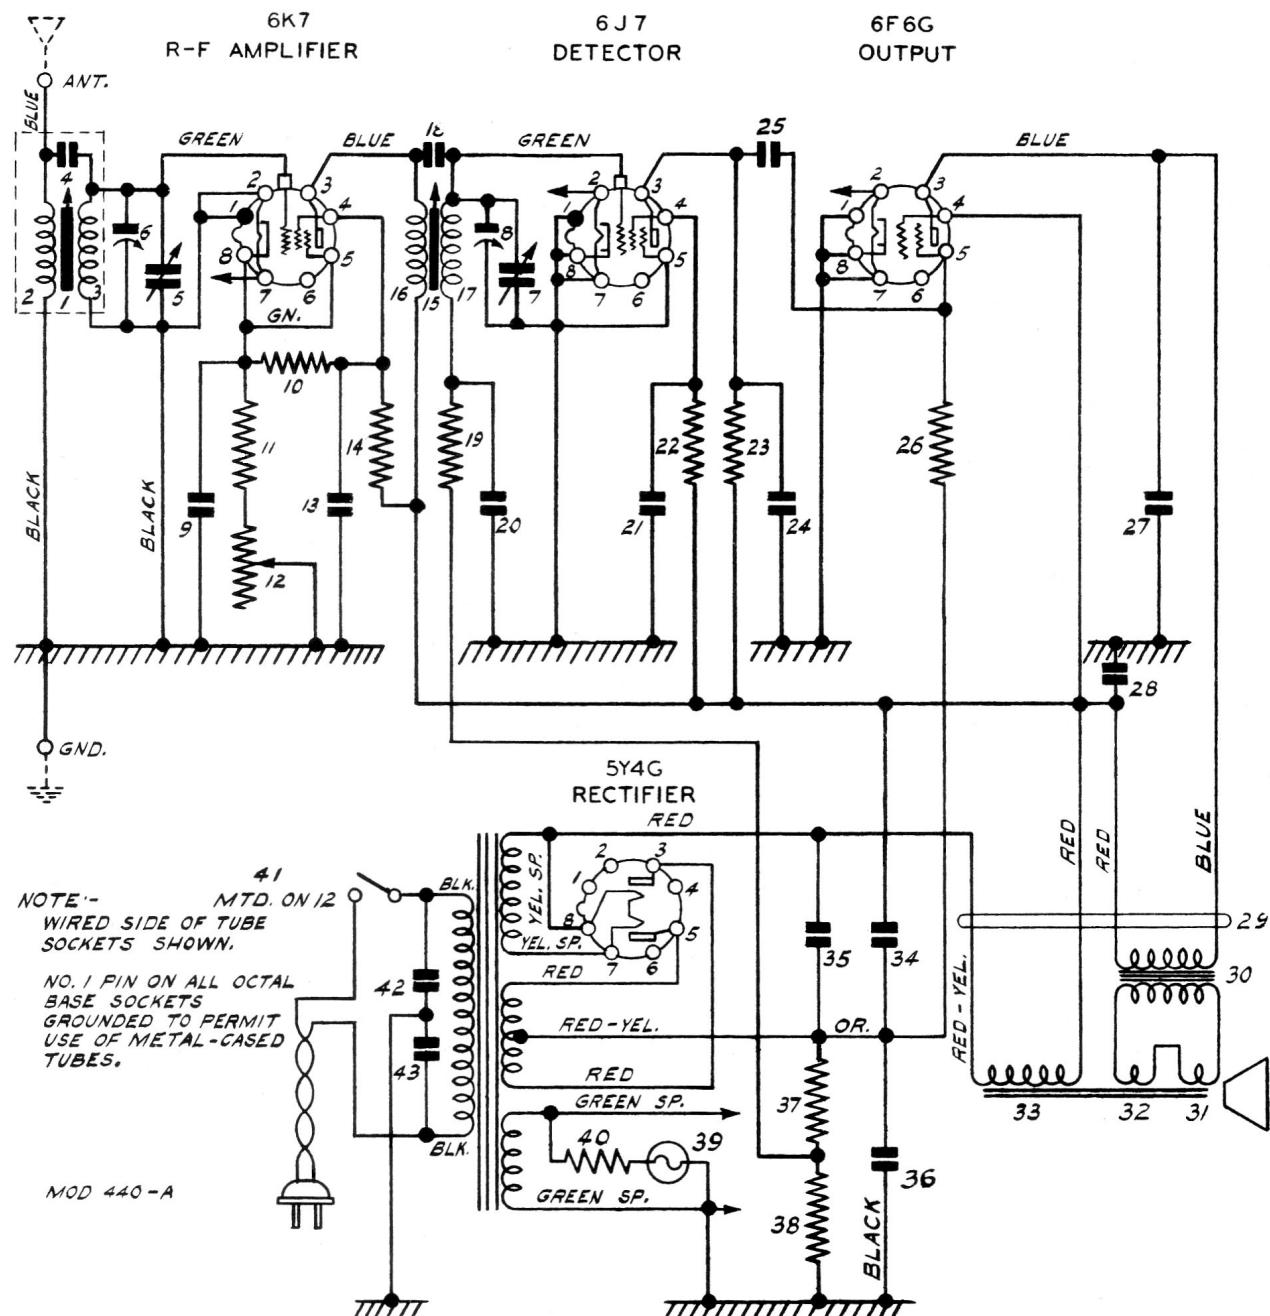

Figure 1. Schematic Circuit Diagram.—Model 440 A
**CIRCUIT:**—(Refer Fig. 1 Schematic Diagram). This T.R.F. circuit uses iron-cored antenna and r.f. transformers. The adjustable cores are items 1 and 15 (See "Realigning Details"). The antenna and r.f. sections of the ganged tuning capacitor are items 5 and 7 with